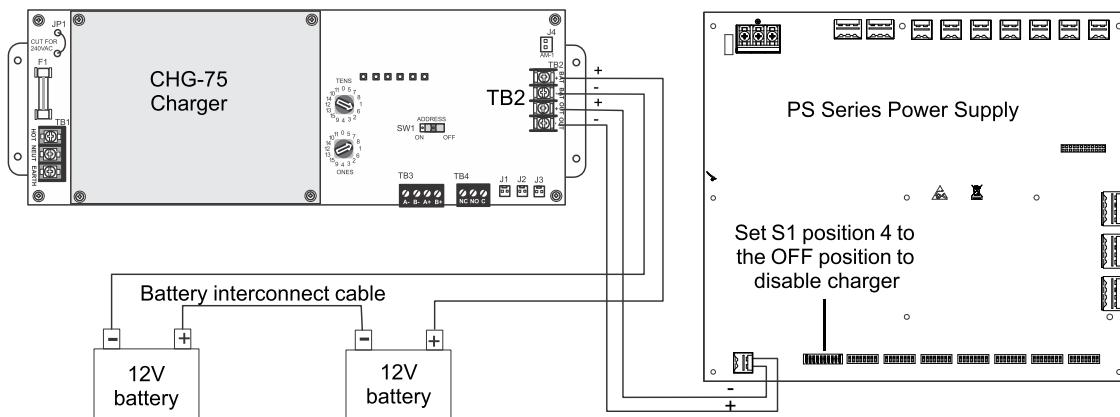

Figure 2.10 Connecting the Power Supply to a CHG-75 Charger
2. Connect the battery cables between TB15 (+ and -) on the FL-PS and the CHG-75 charger output circuit (TB2: Out+ and Out-) as shown in Figure 2.10. Be certain to observe polarity.